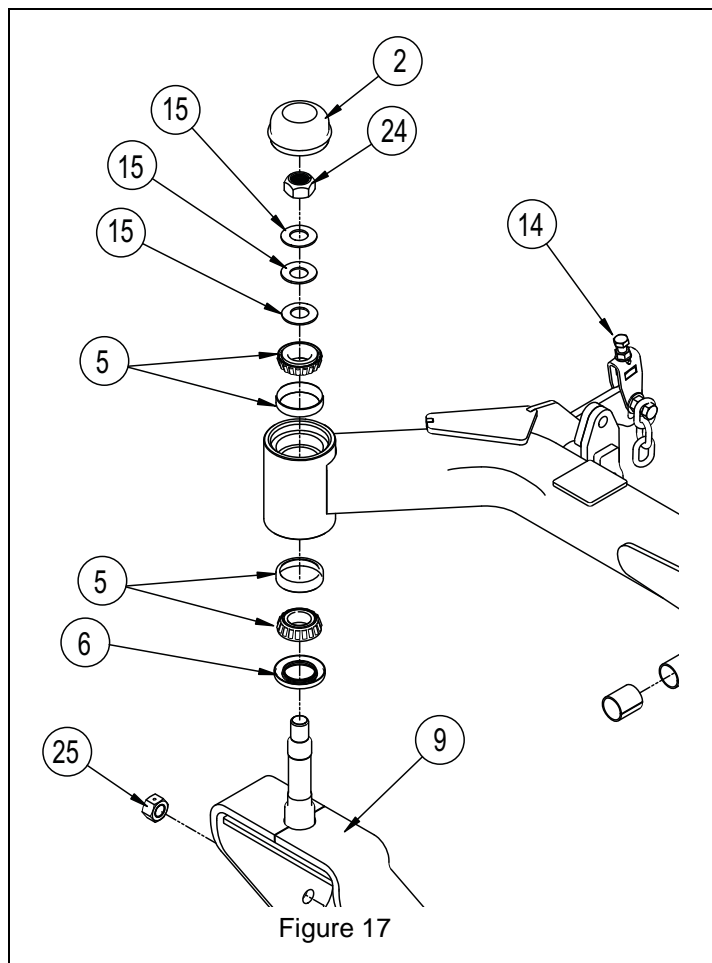

Figure 17
3. Remove the cap (2), the 3/4" locknut (24), the three 3/4" belleville washers (15), and the front wheel weldment (9), see figure 17.
- Measure the height of the blade tips on both 1 and 2 and adjust the front adjustment bolts (see figure 17, item 14) and the rear U-bolts to ensure the deck is level from left to right.